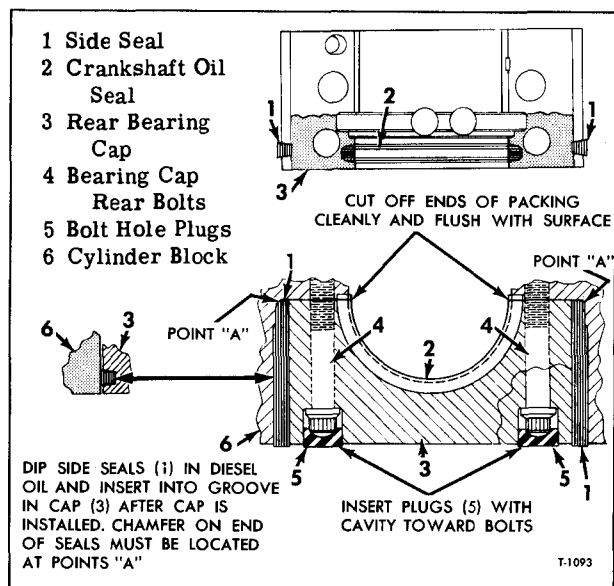

Figure 19—Cross Section of Rear Bearing Cap and Seals
2. Set cylinder head in place on gasket with dowels in block engaged with mating holes in cylinder head. Apply S.A.E. #10 engine oil on threads and heads of cylinder head bolts, then install cylinder head bolts and draw head down gradually. Finally tighten cylinder head bolts in sequence shown in figure 19 on V6 engines, or as shown in figure 20 on V8 engines. Tighten bolts gradually to final torque of 60 to 65 foot-pounds on V6 engines.